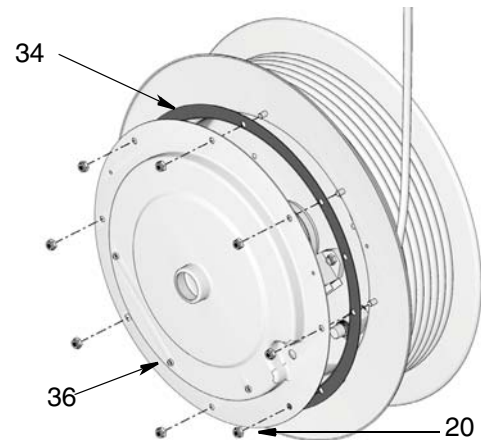

FIG. 10: Size 10 shown
5. Tighten to 10.2 in-lbs (1.15 N.m) with phillips screws on slip ring brush bracket (22).
6. Ensure gasket (34) is in place. Refer to FIG. 10 for correct placement.